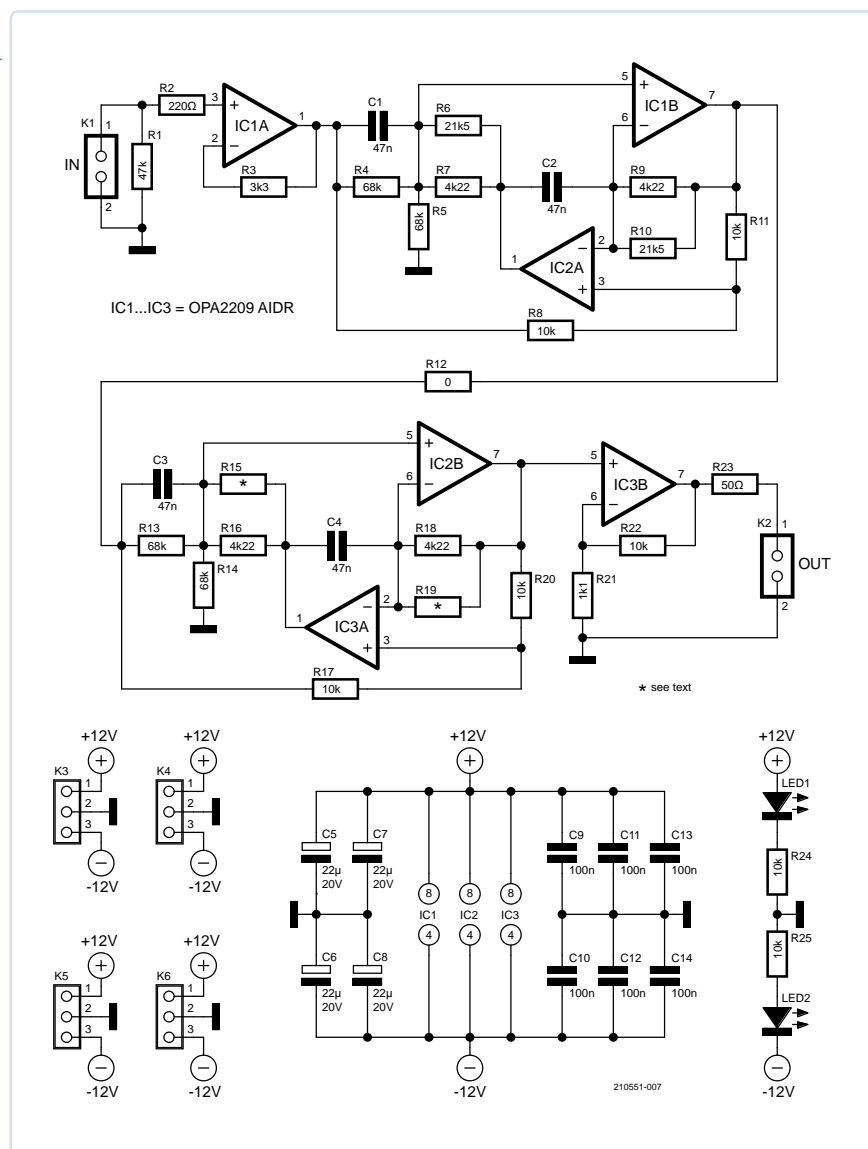

Figure 1: The circuit of the double notch filter needs only three (high-quality) opamps.
**Figure 1** shows the full circuit. Opamp IC1A buffers the input signal, so the first Fliege filter stage built around IC1B and IC2A is driven by a low-impedance source with defined signal conditions. The output of the first filter stage is fed through the 0 Ω resistor R12 to the second filter stage, which has the same component values. IC3B amplifies the filtered signal by 20 dB. If this is not desired, the gain can be reduced to 1 by omitting R21 and reducing the value of R22 to 3.3 kΩ.